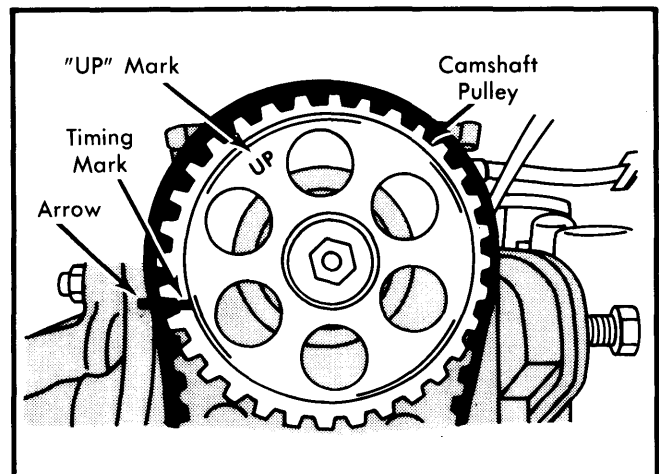

Fig. 4 Camshaft Alignment Marks in Position for Installing Camshaft Belt (1751 cc Engine)
1) Rotate crankshaft until TDC mark on flywheel or driveplate is aligned with index mark. On 1751 cc engines, "UP" mark on camshaft gear should be at 11 o'clock position and timing mark aligned with arrow on cylinder head. See Fig. 4.